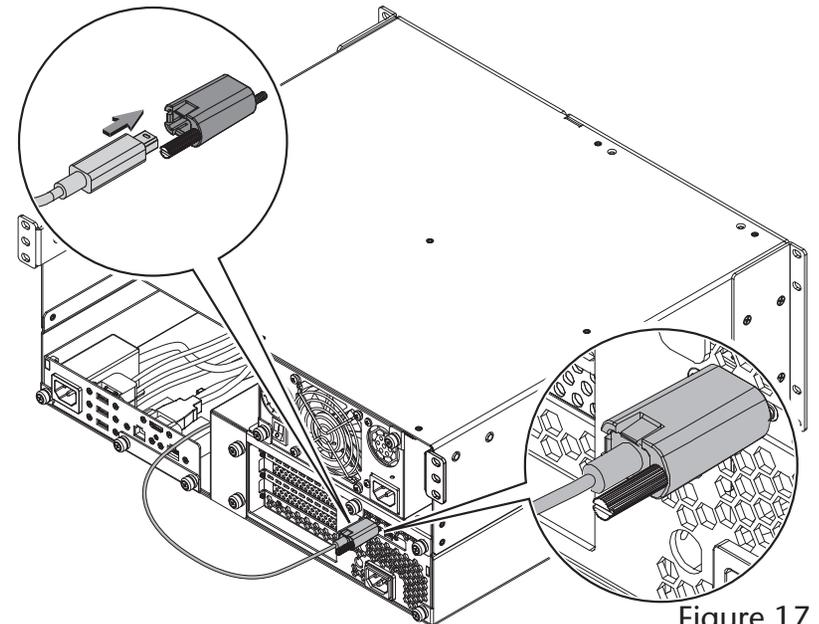

Figure 17
To attach the clip to the cable, remove them from their packaging, and then insert the connector into the connector clip as shown (**Figure 17**). Note that the connector will pass all the way through the clip; when you connect the cable to the module, the clip will secure the cable.
13. Plug in the included Thunderbolt cable to either Thunderbolt port on the PCIe card expansion module (**Figure 17**). Secure the retainer clip to the expansion module if you attached it.